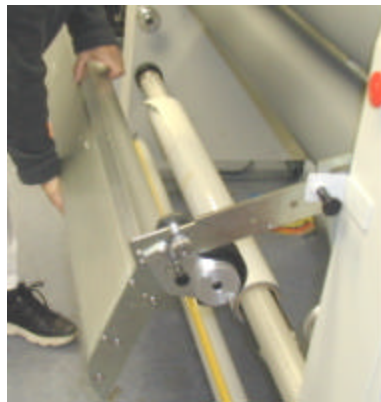

Figure 14. Table Pivoting Up
- Reposition the table by lifting the outer edge upwards and pivot in towards the roller (Figure 14).